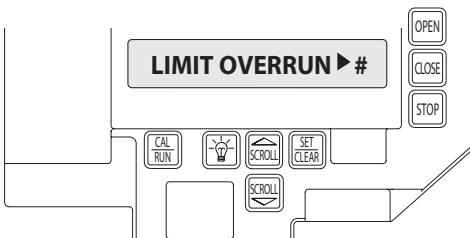

Figure 8
- 2) Press scroll (DN) until the display reads "LIMIT OVERRUN>(0-9)." **Fig. 8.**